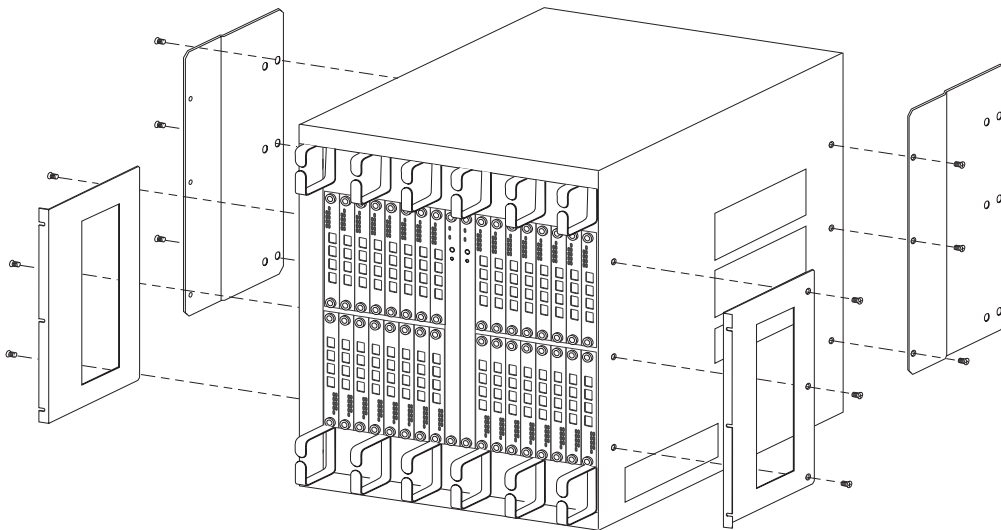

Figure 4: .Securing the front mounting brackets to the Director 2/140
2. Secure the front mounting brackets on either side of the Director, as shown in Figure 4. For each front mounting bracket, use three screws.
4. Secure the two rear mounting plates to each side of the Director, as shown in Figure 4. For each plate, use three screws.